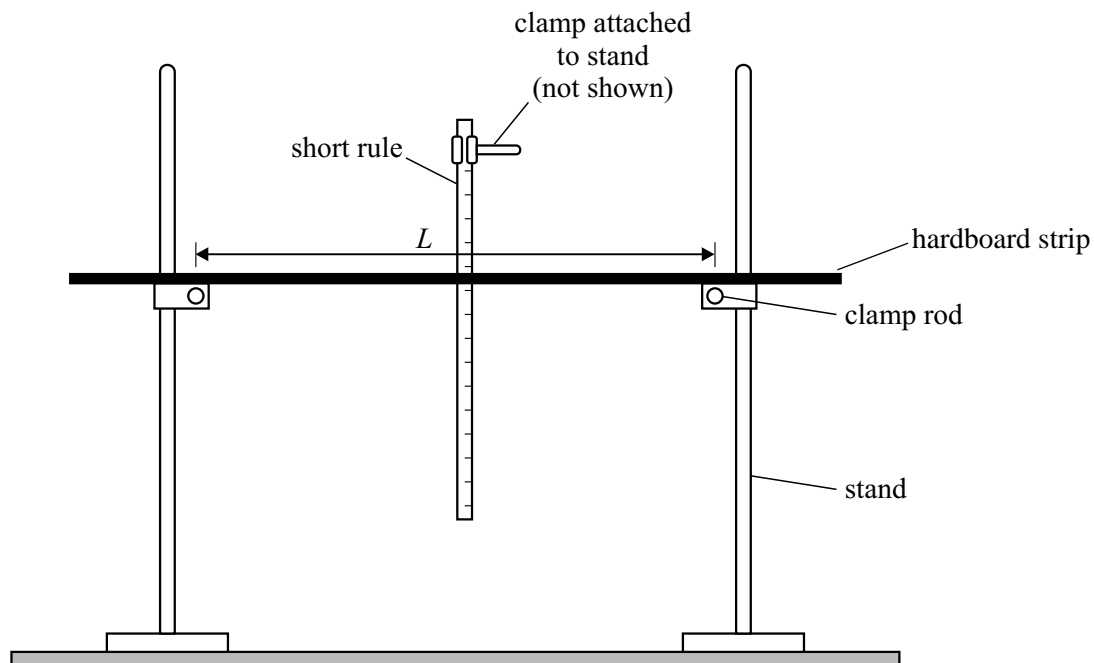

Figure 1
- 1** You are to investigate the behaviour of a strip of hardboard that is supported as shown in **Figure 1**.
- (a) (i) Arrange the apparatus as shown in **Figure 1**. The smooth side of the hardboard strip should be at the bottom.